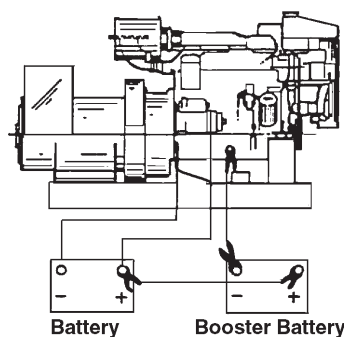

Figure 22:
3. First, connect positive (+) terminal of booster battery to positive (+) terminal of main battery. Then, connect negative (-) terminal of booster battery to ground on the engine block (see Figure 22).